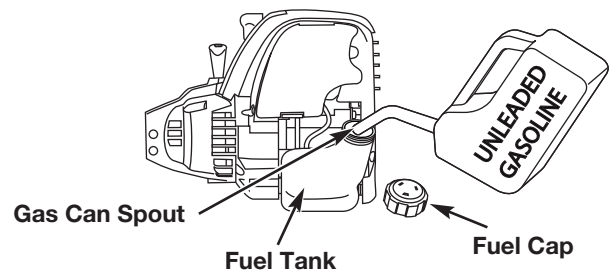

Fig. 6
1. Remove the fuel cap (Fig. 6).